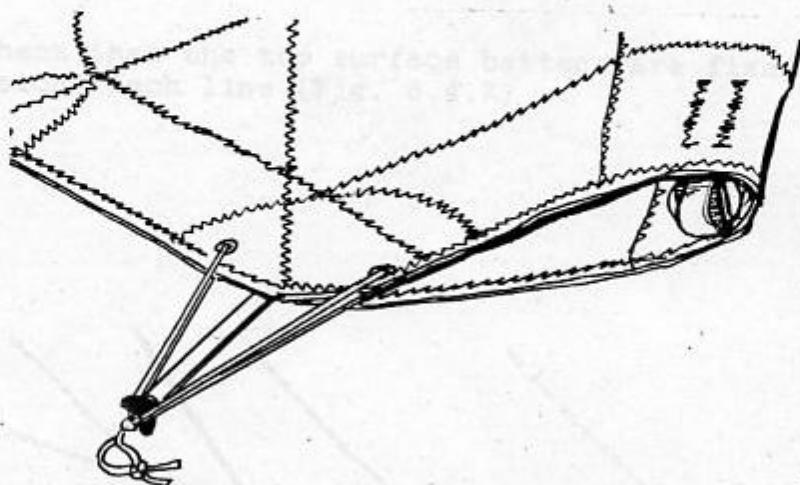

Fig. 3.4.5.
5. Look into the sail at each wing tip, and check that the tip battens are properly seated and fixed with the leech lines (Fig. 3.4.5).